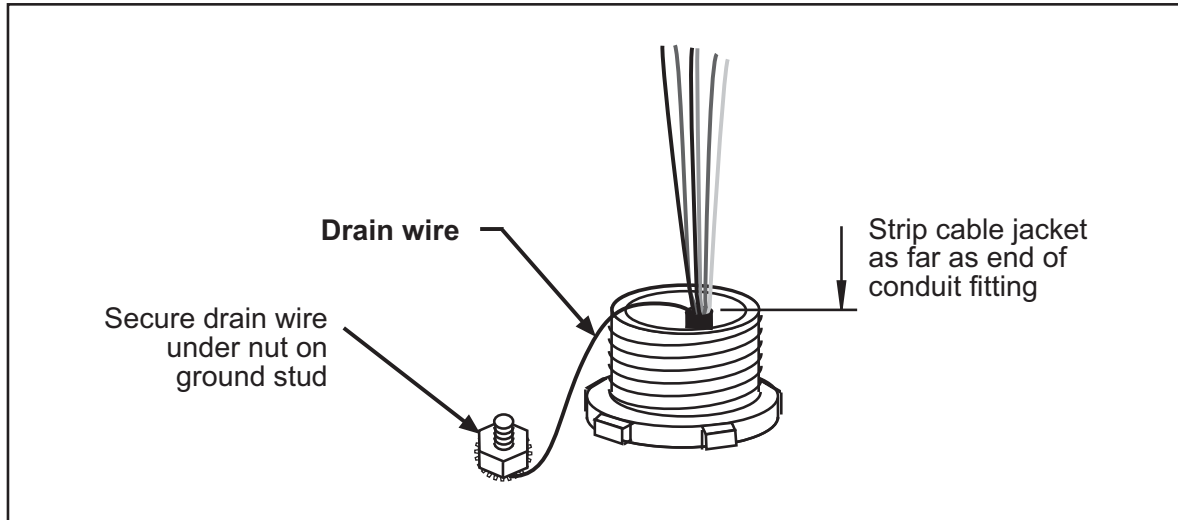

Figure 2-7. DSI 2 Output Cable Shield Drain Wire Connected to Ground Stud
3. Ground the cable shield to the stud inside the base or enclosure, as follows, referring to Figure 2-7, page 2-10.